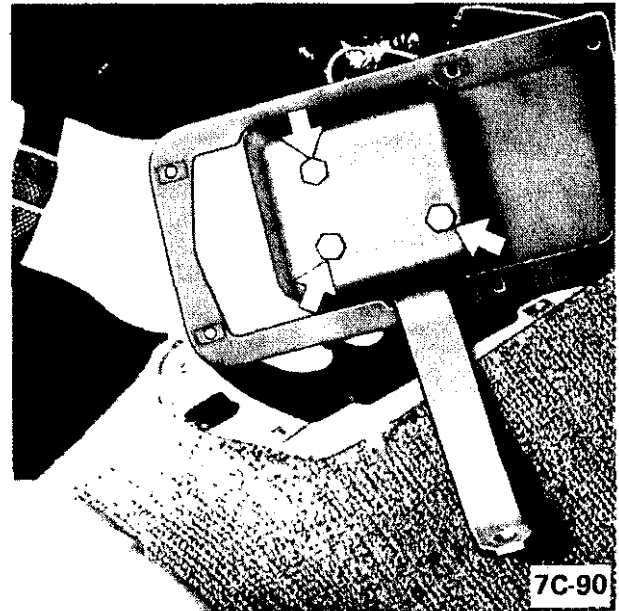

Figure 7C-90
6. Remove intermediate selector lever (B) from shaft and remove assembly from support housing. See Figure 7C-92.